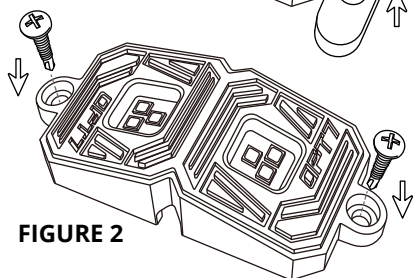

FIGURE 2
- OPTION 2** Use "Self-Drilling Screws" for mounting as shown in Fig. 2